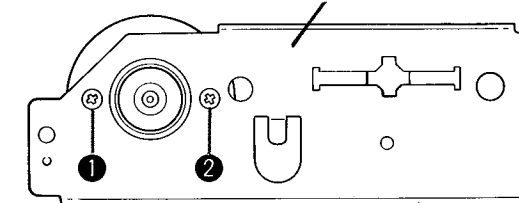

Fig. 14
4. Remove the screws 1 and 2 in Fig. 14 and then remove the motor.